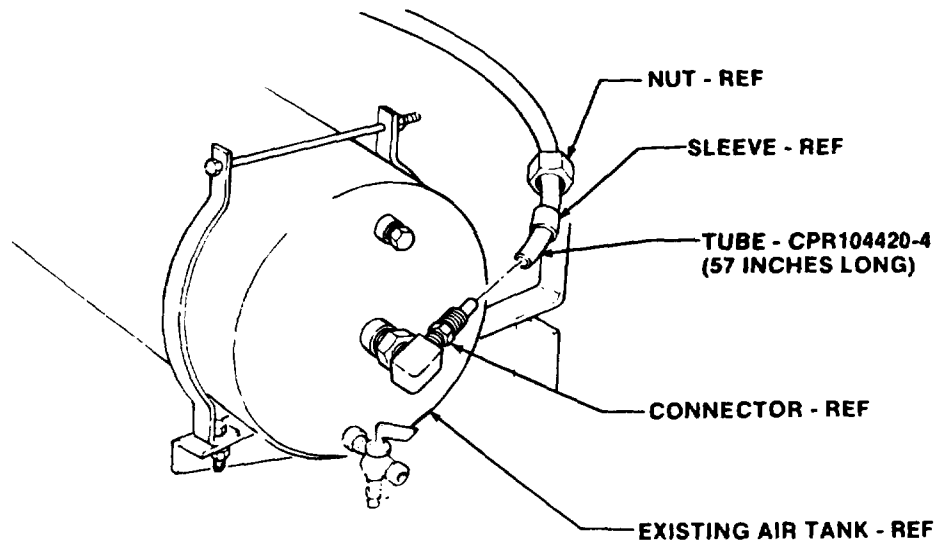

FIGURE 13
(8) Install CPR104420-4 (57 inches long) tube to connector on front of existing air tank and secure with sleeve and nut as shown in figure 13. Sleeve and nut retained from 10. a. (8).